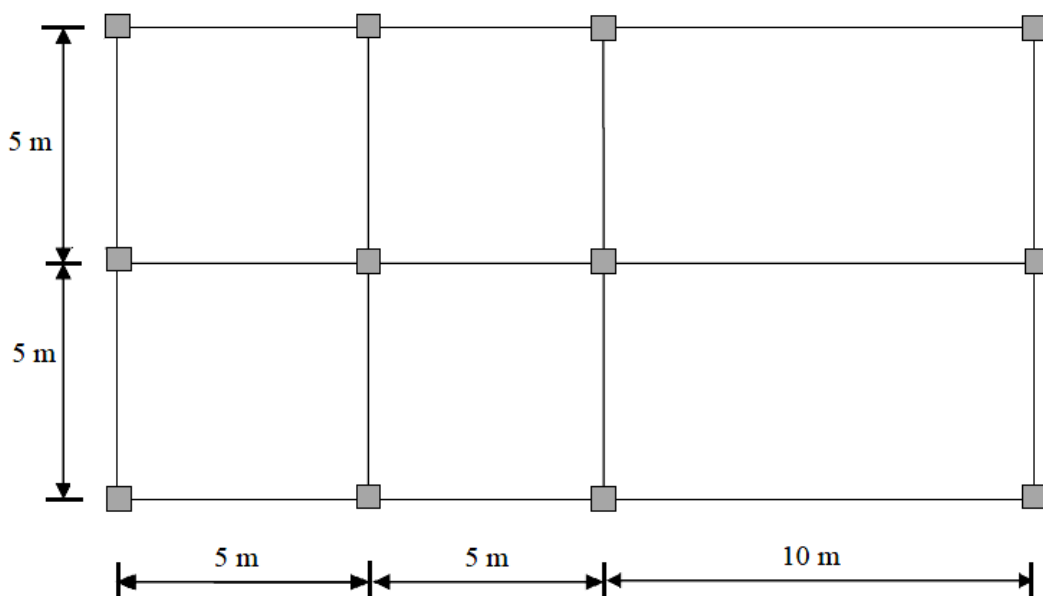

Fig.1
- Q.5** (a) Determine centre of stiffness for the one storey building plan shown in fig.1. All columns are of size 300mm x 300mm. **03**